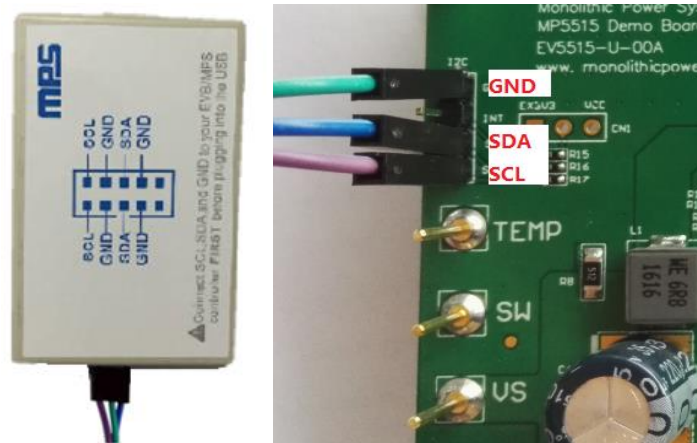

Figure 6: EVB to MPS I²C Communication Interface Wire Connection
2. Connect SCL, SDA, and GND (see Figure 6). If needed, refer to the datasheet for further clarification.